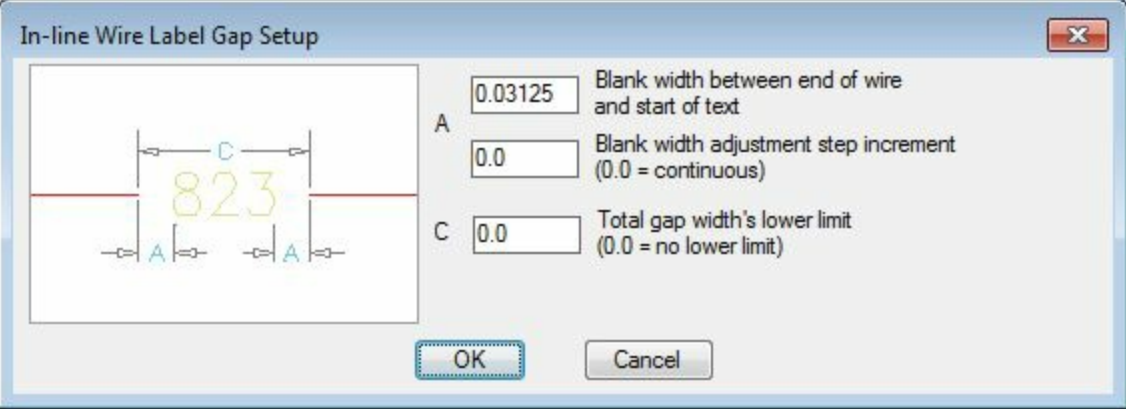

Figure-19. In-Line Wire Label Gap Setup dialog box
- Select the **In-Line** radio button to place the wire numbering in line with the wire. On selecting this radio button the **Gap Setup** button becomes active. Click on this button to specify the gap between the wire number and wire ends; refer to Figure-19. After specifying the values, click on the **OK** button from the dialog box displayed to apply the gap.